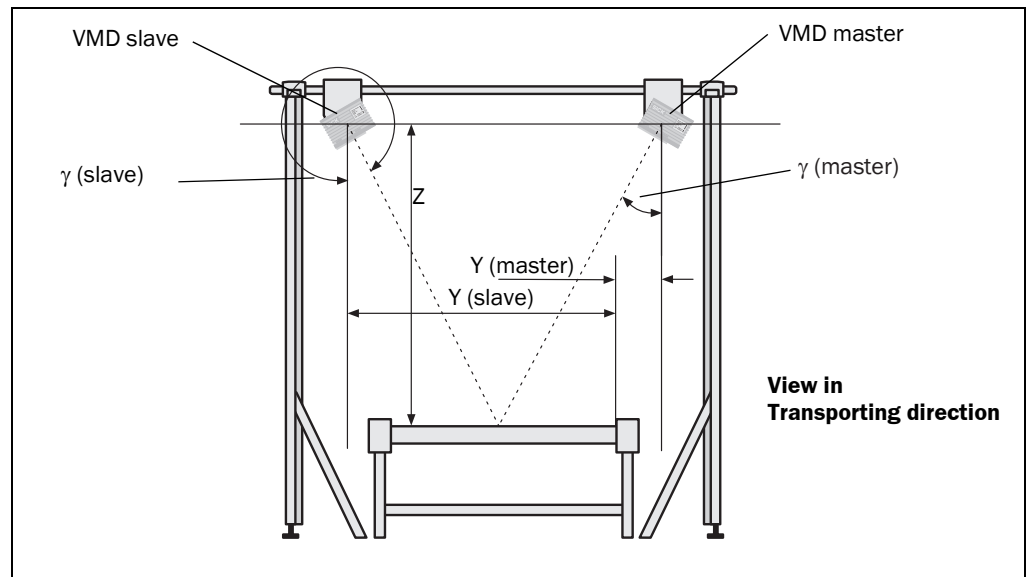

Fig. 21: Angle γ and Y coordinate and Z coordinate
- Enter the GAMMA, Y COORDINATE AND Z COORDINATE parameters for the VMD master and the VMD slave (see Fig. 21). A rough entry is adequate. The assistant will determine the exact parameters during the subsequent steps.